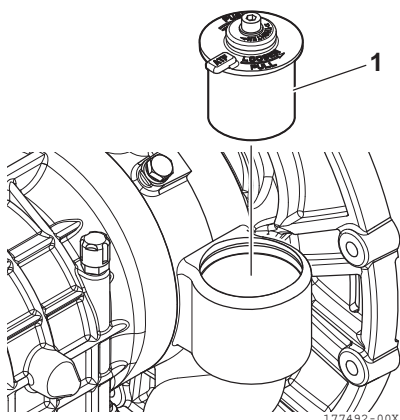

Figure 12
2. Remove the filter assembly (1, **Figure 12**) from the gearbox.